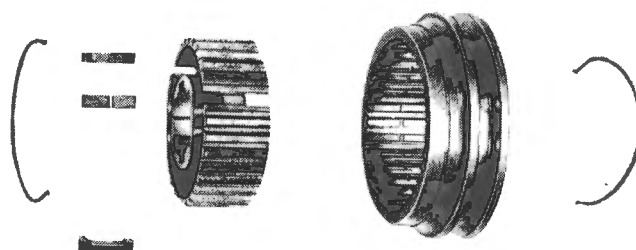

Fig. L-32
- 4 The third and fourth speed synchroniser unit is assembled in a similar manner to the first and second speed unit with the exception that the sleeve is assembled to the hub with the sleeve selector groove and inner hub spline protrusion at opposite ends. Fig. L-32.